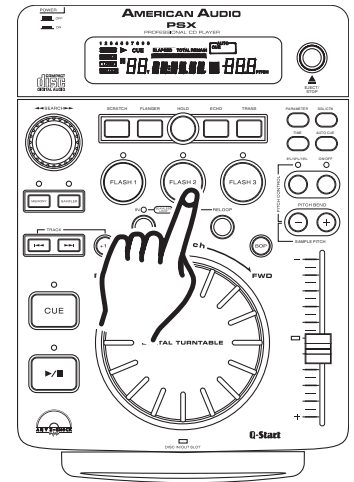

Figure 35
15. CHANGING THE TIME DISPLAY (49, 50, & 51)/TIME BAR (54):
DURING NORMAL PLAYBACK, pressing the *TIME BUTTON* (25), will change the time display information (49, 50, 51, 55, & 57) in the *LCD* (1) see figure 35. The following is a break down of the time settings and their definitions:
- 1) **ELAPSED** (56) - This describes the time in the LCD (49, 50, & 51) as the current *TRACKS* Elapse running time.
- 2) **REMAIN** (55) - This describes the time in the LCD (49, 50, & 51) as the current *TRACKS* remaining running time.
- 3) **TOTAL REMAIN** (55) - This describes the time in the LCD (49, 50, & 51) as the disc total remaining running time.